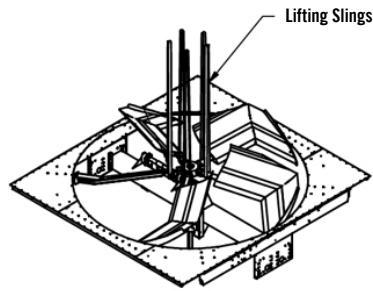

Figure 32. Fan Positioning
6. Position the fan over the top of the keyed fan shaft (**Figure 32**).